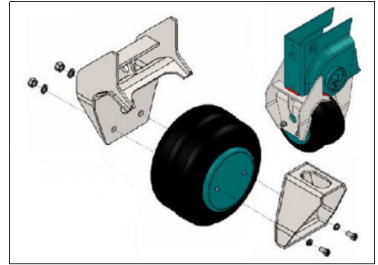

Fig. 20
(1) Place the load-bearing air spring between the beam and the rear bracket. Install the air spring fastening bolts, washers, and nuts. Tighten to the specified torque according to the parts exploded view and torque table on Pages 07–08.
(2) For lift air spring installation (for lift air suspension configurations)– see Fig. 20.